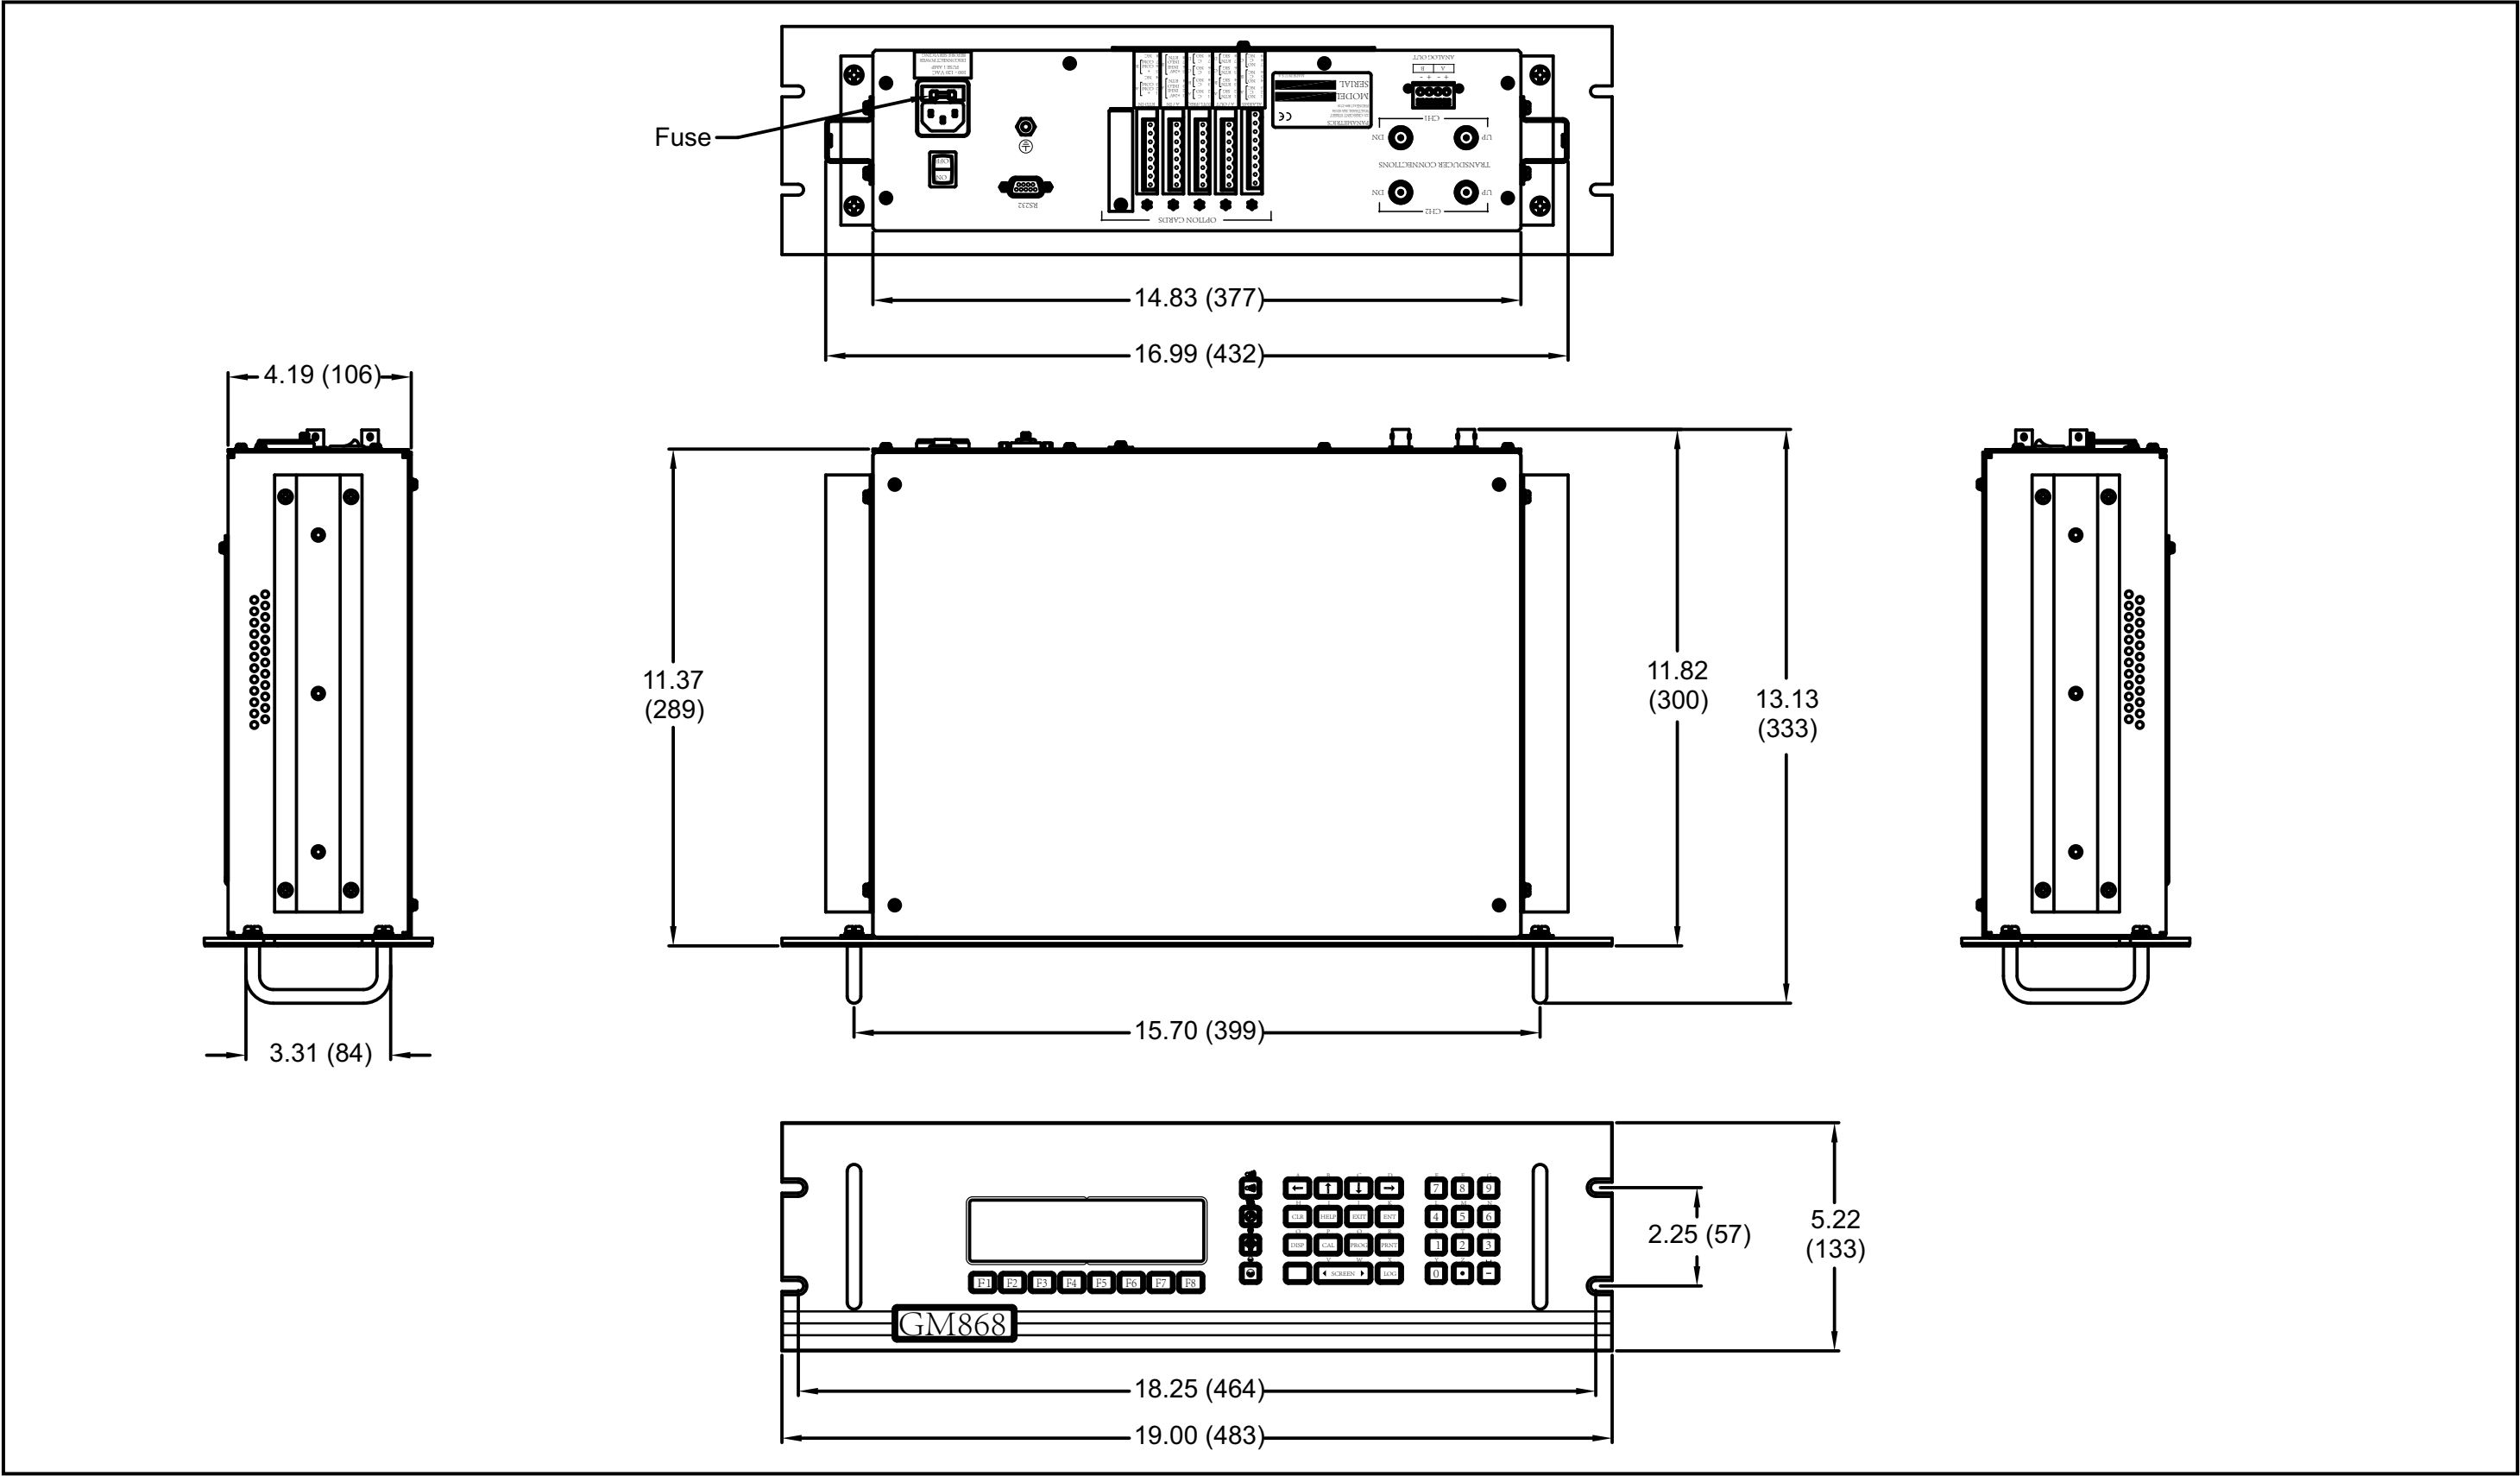
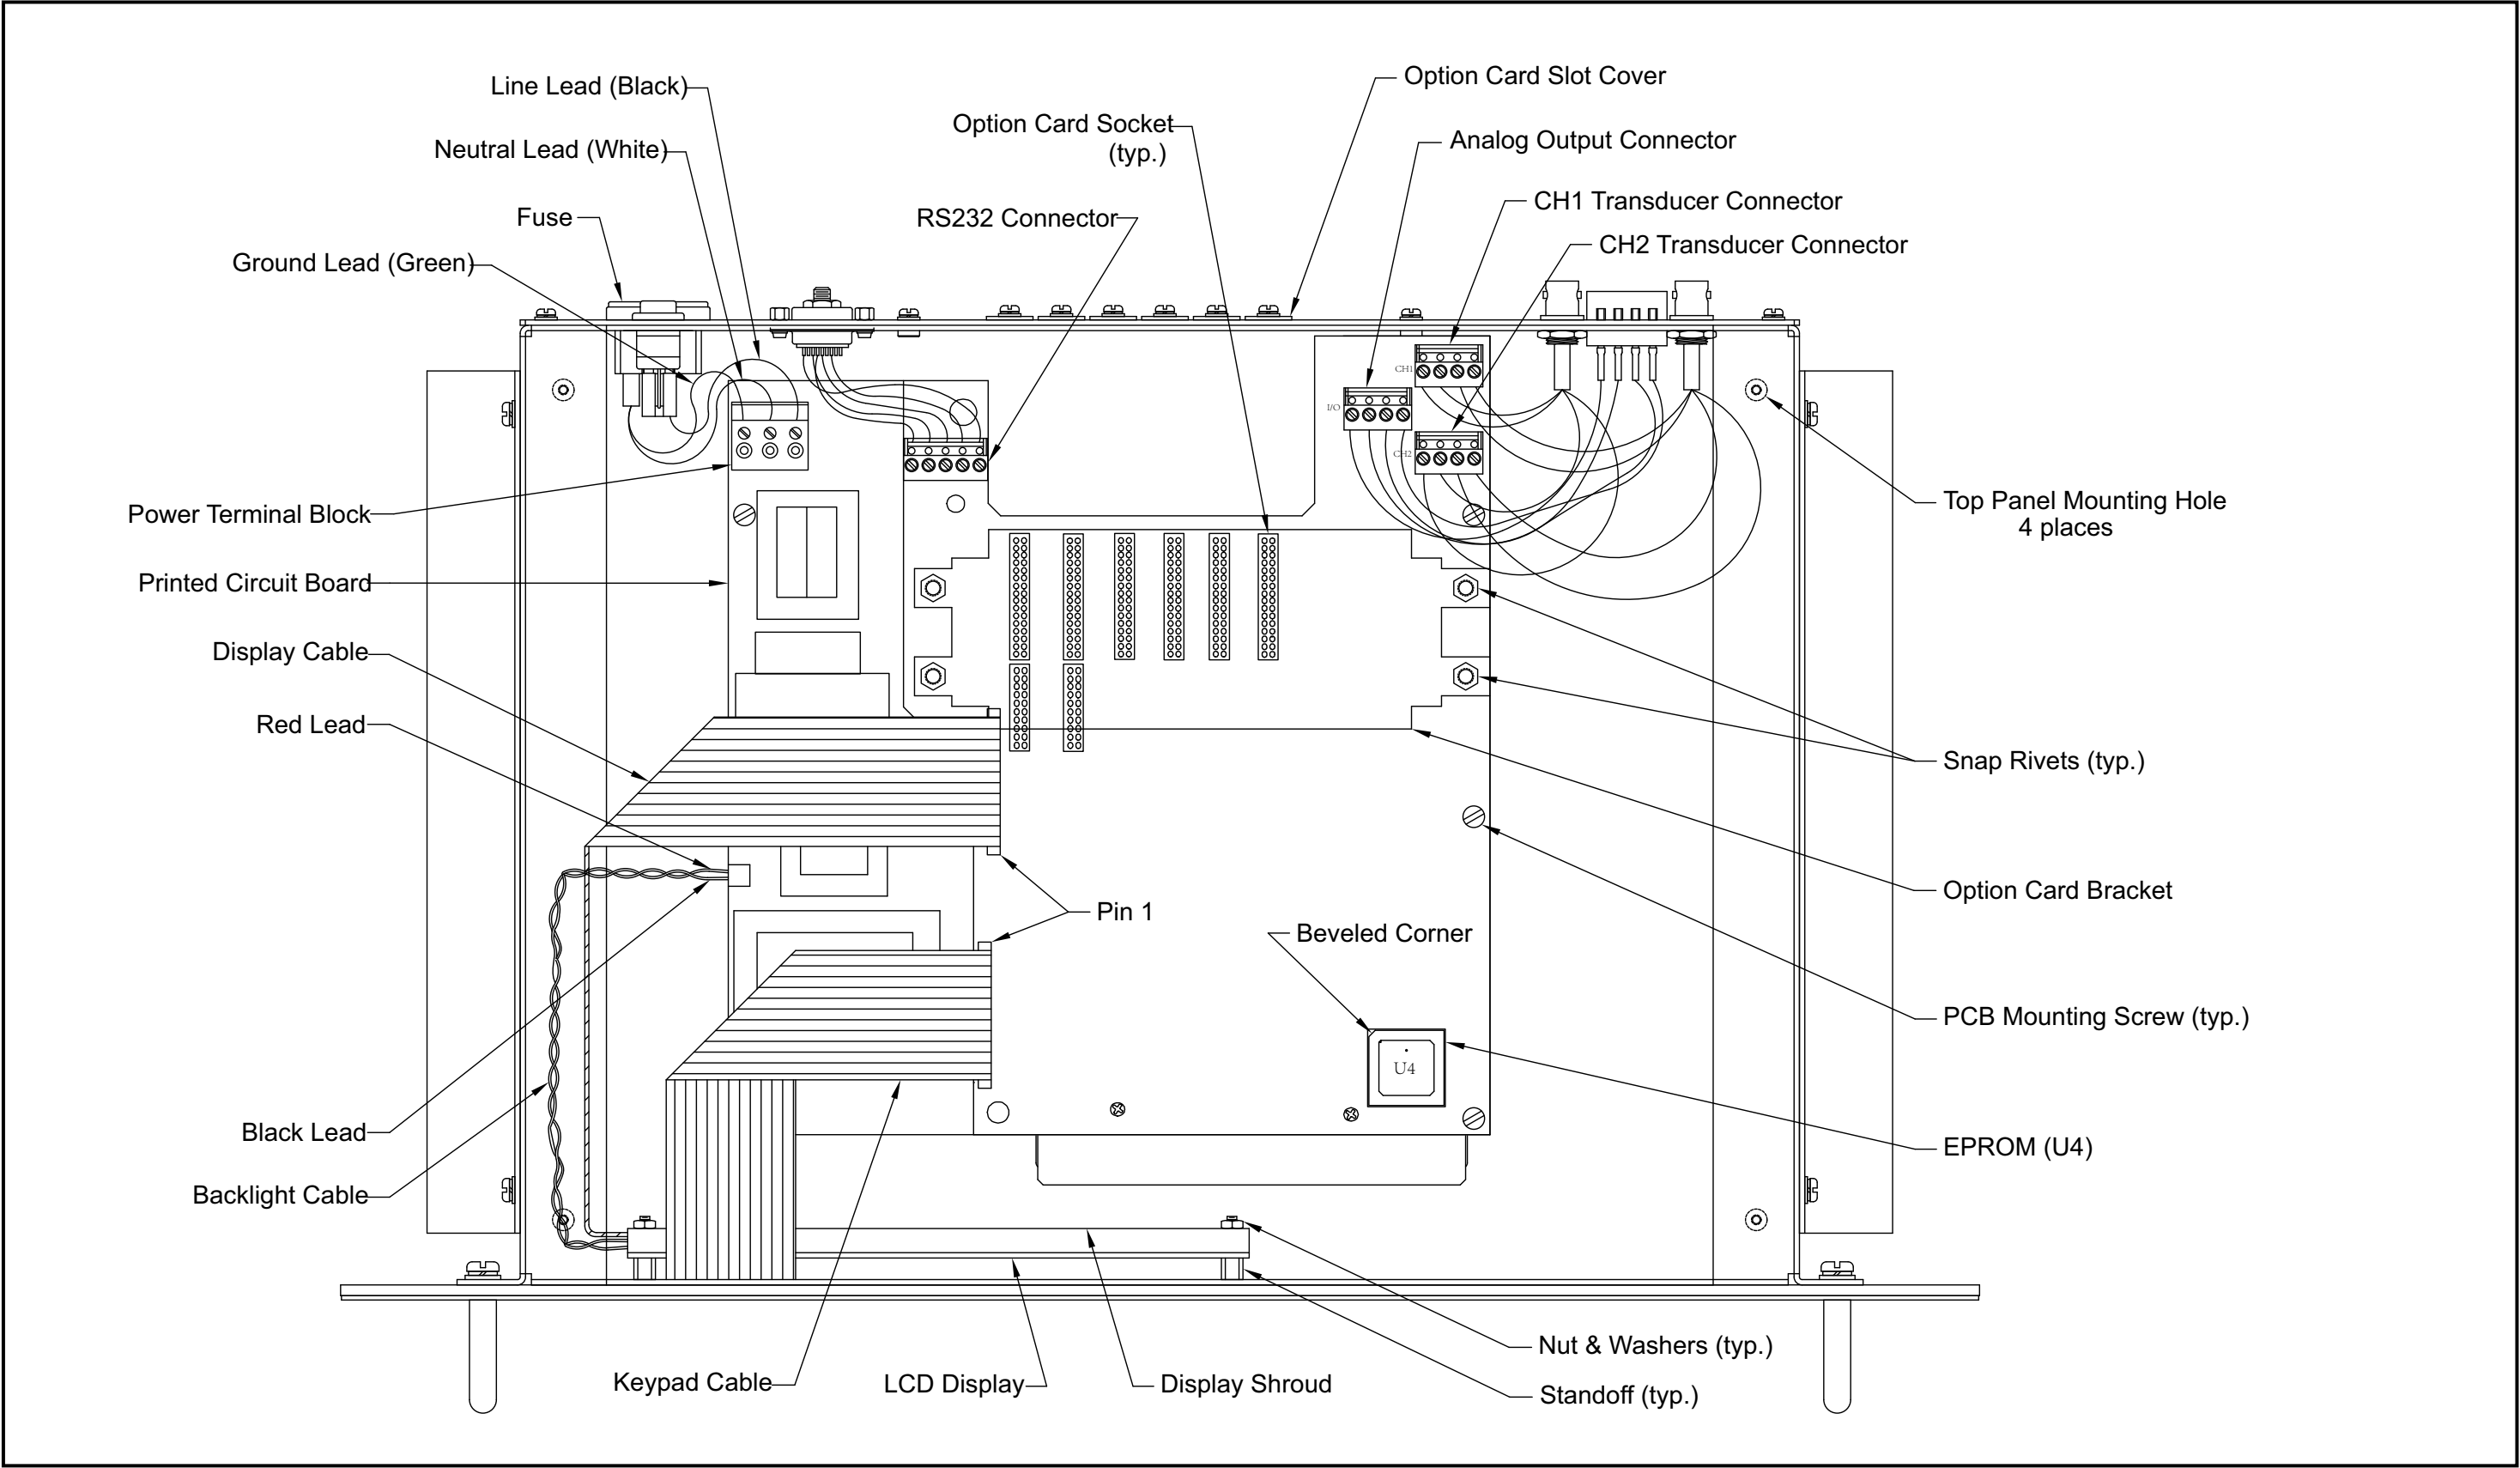

Figure 10: Model GM868 Rack Mount Enclosure Dimensions - (ref. dwg #712-1076)
Figure 11: Model GM868 Rack Mount Console Assembly - (ref. dwg #705-849)
Refer to *Figure 10 on page 53* and *Figure 11 on page 54* for the location of the relevant components, while completing the following procedures. If the top panel of the meter is accessible, service may be performed without removing the meter from the rack. Otherwise, disconnect all rear panel electrical connections and remove the meter from the rack before proceeding.
If it has been determined that the fuse in the Model GM868 requires replacement, refer to *Figure 10 on page 53* and *Figure 11 on page 54*, and complete the following steps:
Refer to *Figure 11* on page 54 and complete the following steps:
EPROM replacement may be required to replace a defective chip or to upgrade to a newer software version. To replace the EPROM, refer to *Figure 11* on page 54 and complete the following steps:
To replace the LCD display, refer to *Figure 11 on page 54* and complete the following steps:
Refer to *Figure 11 on page 54* and complete the following steps:
5. Install the RS232, ANALOG OUT and TRANSDUCER connectors onto the printed circuit board at the locations indicated in *Figure 11 on page 54*. Make sure the marked pin #1 sides of the connectors face the right side (keypad side) of the enclosure.